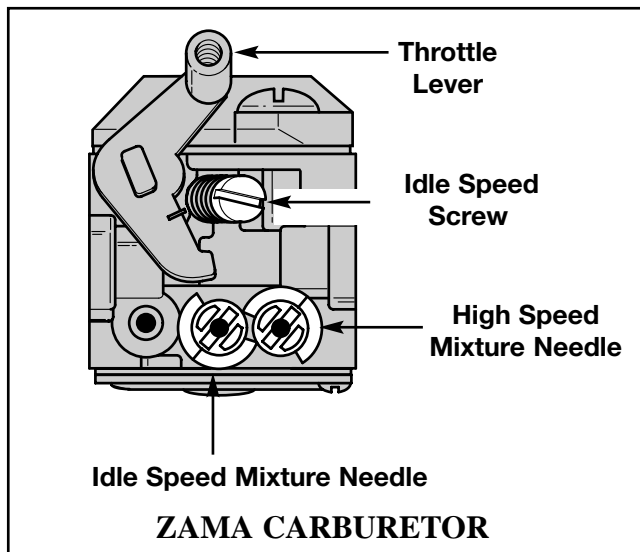

Fig. 31
- c) For **Zama** carburetors: Back the idle speed screw (Fig. 31 - page 14) **out (counterclockwise) until it does not contact** the throttle valve located inside of the carburetor. This is accomplished by carefully watching for the movement of the throttle lever to stop. Then turn the screw **in (clockwise)** until it just *begins to move* the throttle lever, then continue turning **1 1/2 turns.**